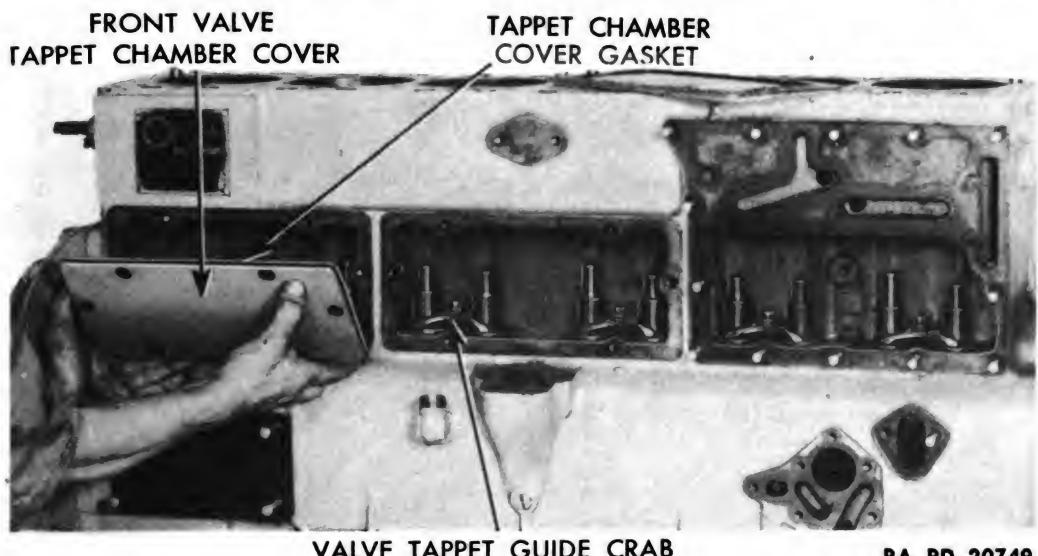

Figure 17 — Removing Valve Tappet Chamber Cover
f. **Remove Valve Tappets.** Remove 12 screws and lock washers holding front and center valve tappet chamber covers to cylinder block, and remove covers (fig. 17). NOTE: *Rear chamber was uncovered when oil cooler housing was removed. See TM 9-786.* Remove six screws and lock washers holding six valve tappet guide crabs (fig. 17). Lift off crabs (fig. 18). Lift out 12 tappet guides and tappets (fig. 19). Remove tappets from guides.